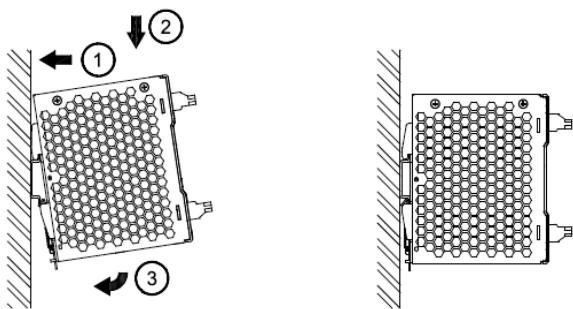

Fig. 2.1 Mounting
- Snap on the DIN rail as shown in Fig. 2.1: